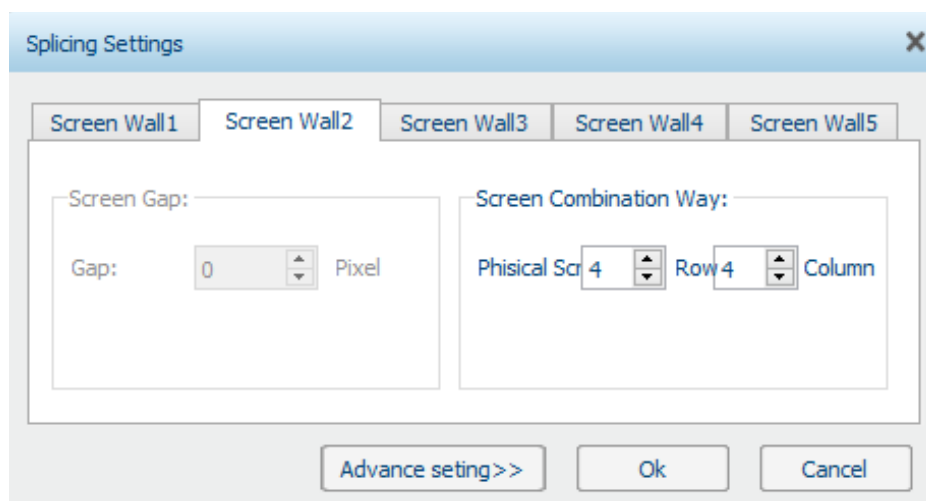

Figure 17: Splicing Settings window
- The window shown above in figure 17 will be displayed, the maximum number of Screen Walls supported by the Pro Matrix software is 5, to select which video wall you wish to edit select the relevant tab along the top of the Splicing Settings window